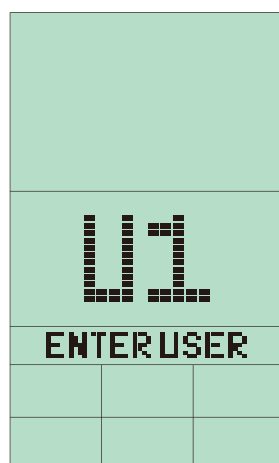

FIGURE 3
2. User may turn the UP/DOWN joggle wheel to select User 1~4 and press ENTER for confirmation (FIGURE 3~4).